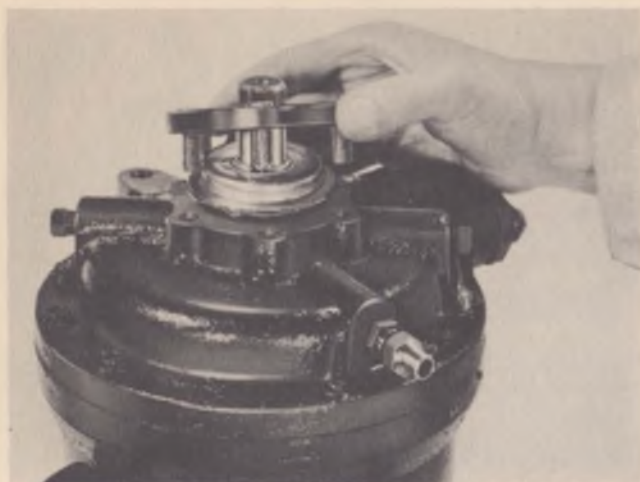

Fig. 17
5. Remove the seal retaining plate as shown in Figure 17.